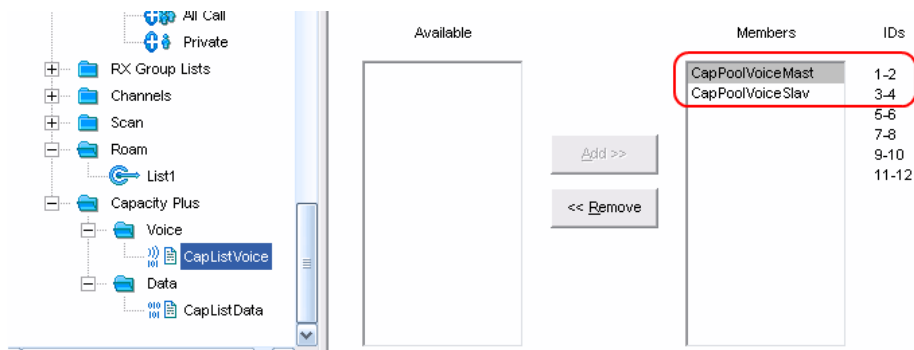

Fig. 24 - Adding voice channel pools to voice channel list
5. Add created voice channel pools to Capacity Plus voice channel list (Fig.24).